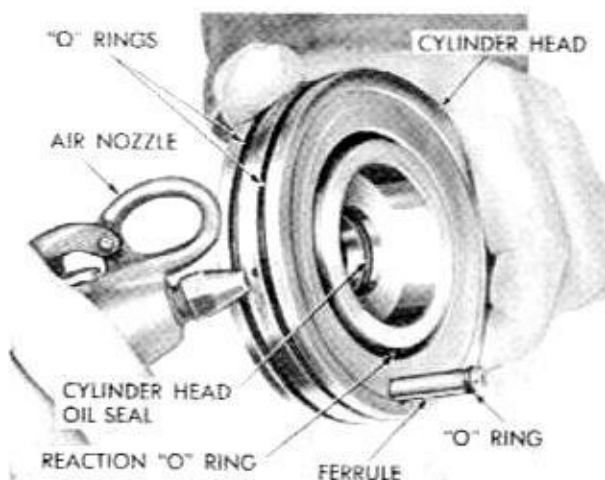

Fig. 16—Removing Reaction Seal from Cylinder Head
(17) Remove upper thrust bearing race (thin) and upper thrust bearing.
(18) Remove center bearing race.
(19) Remove lower thrust bearing and lower thrust bearing race (thick).
(20) Remove lower reaction ring and reaction spring.
(21) Remove cylinder head assembly.
(22) Remove two "O" rings in two outer grooves in cylinder head.
(23) Remove reaction "O" ring from groove in face of cylinder head with air pressure directed into oil hole located between two "O" ring grooves (Fig. 16).